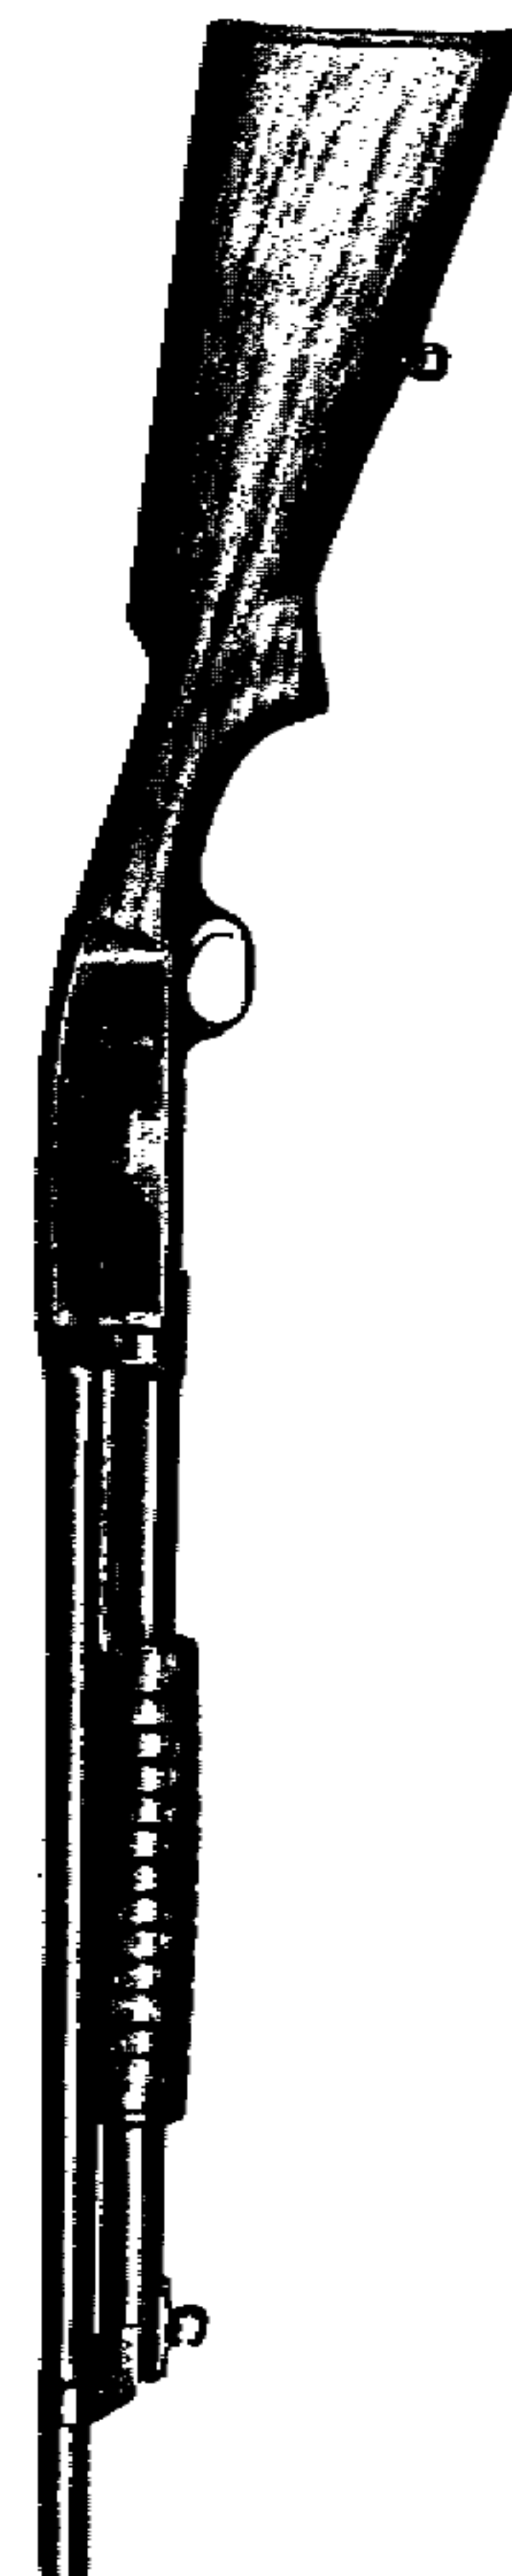

Figure 67 -- Left Side View -- Riot Type -- Remington Shotgun M10
- (1) Name of maker on top of barrel near rear end.
- (2) Boring of barrel on left side of barrel and serial number of gun on right side near rear end.
- (3) The words "REMINGTON (trade mark)," on left side of action slide bar.
- (4) The words "REMINGTON (trade mark) model 10," and serial number of gun on left side of receiver.
- (5) Serial number of gun on right side of trigger guard tang.
b. This gun (figs. 67 and 68) is a manually operated, repeating shotgun of the slide action, hammerless, solid-frame and take-down type. The take-down gun is so constructed that the barrel, magazine and action bar groups can easily be removed from the receiver by disengaging interrupted threads in rear end of magazine and barrel from like interrupted threads in the receiver, by which the barrel and magazine are locked to the receiver. This construction facilitates cleaning and transportation of the gun (par. 3 i).
(1) The riot-type gun (figs. 67 and 68) is usually furnished with a 20-inch plain barrel, bored full cylinder. Some of these guns have a bayonet attachment and hand guard attached to the muzzle end of the